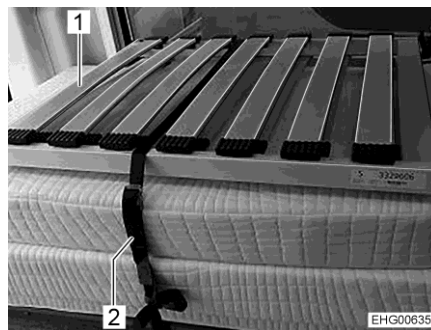

Fig. 48 Rear bed (transport position)
- Release the retaining belt (Fig. 48,2).
- Place the bed bases (Fig. 48,1) one behind the other above the central aisle (on the strips on the bottom cupboard).
- Stack the cushions and bed bases on the left-hand bottom cupboard as shown in Fig. 48.
- Secure the cushions and bed bases with the retaining belt (Fig. 48,2). In order to do this, pull the retaining belt through the eyelets provided and loop it around the cushions and bed bases.